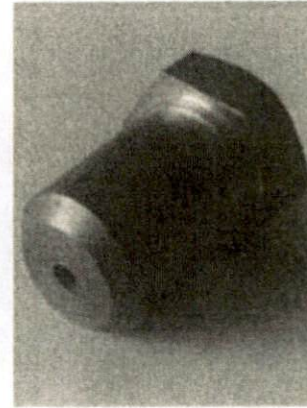

Fig. 10
3. When exchange gas source, use the main fire orifice (Fig. 10) in the accessories. Follow rules of 8.5.